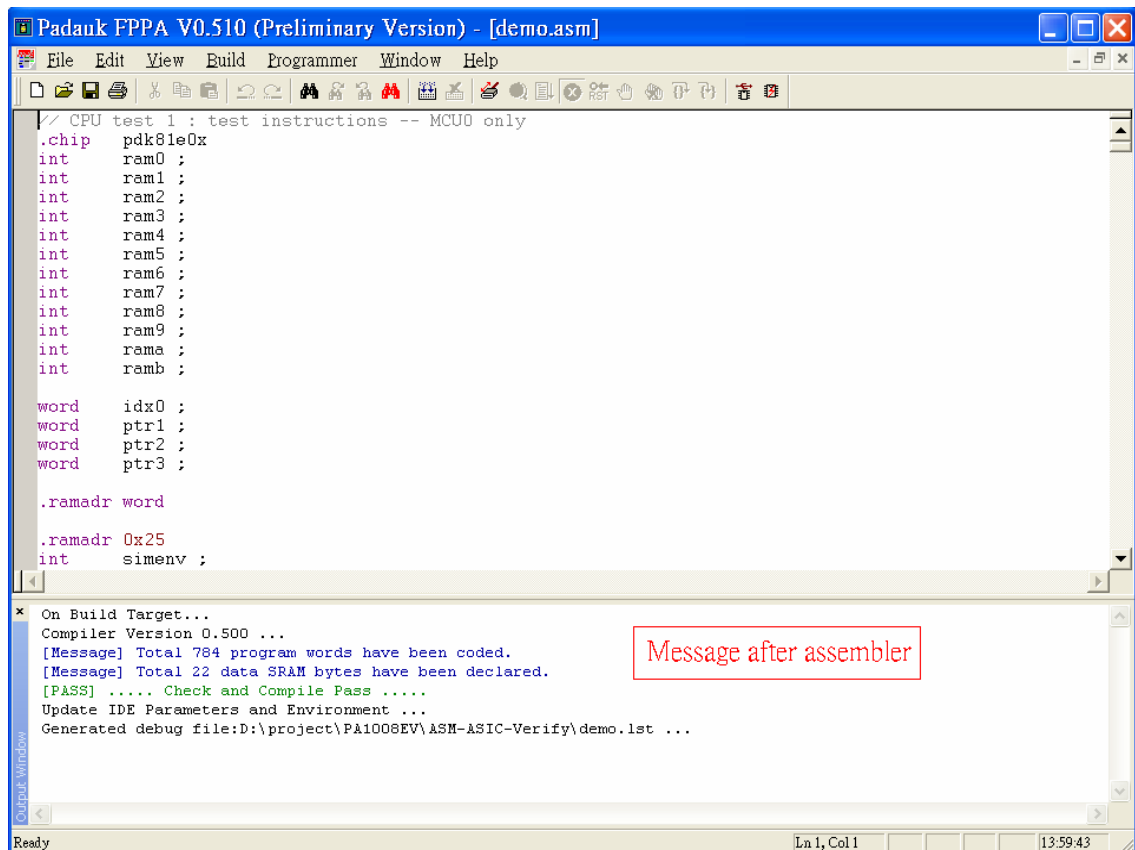

Fig.4-2 : Message after Executing Assembler
Step 1 : After finishing the program source code , executing the assembler by click  in the toolbar , or pressing hot key "F7" , or select the command "Build -> Build" from menu . The Fig.4-2 shows the information after executing assembler , including the error message 、 warning message 、 program memory usage and data memory usage .